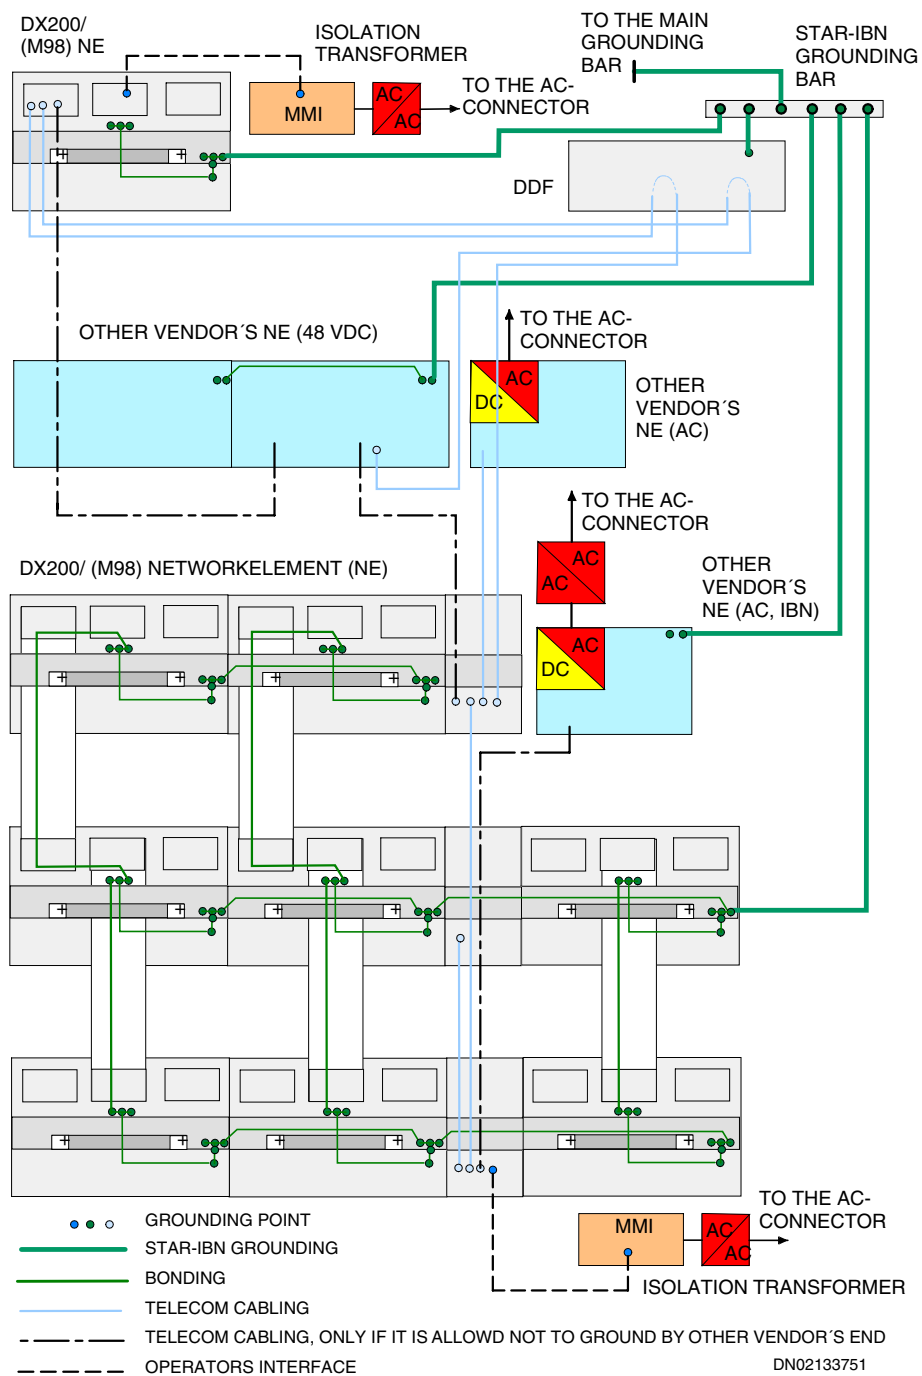

Figure 1. Grounding of network elements and external interface cables at a STAR-IBN site.
- Figure 1. Grounding of network elements and external interface cables at a STAR-IBN site. **12**